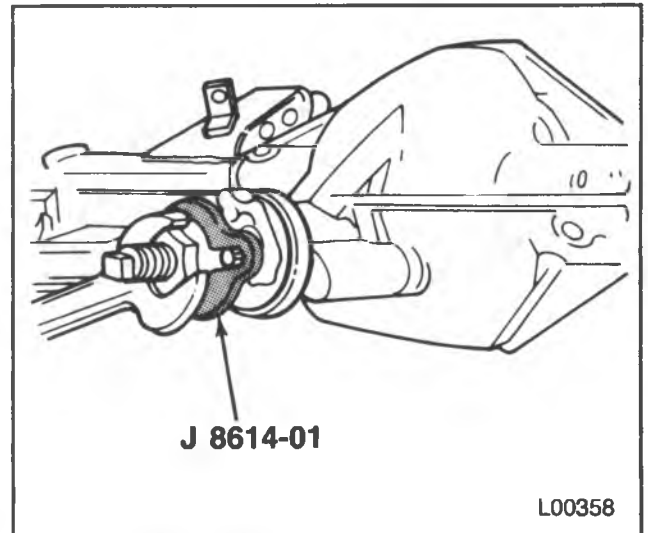

Figure 22 — Installing the Pinion Flange
3. Flange onto the pinion using J 8614-01 (figure 22).